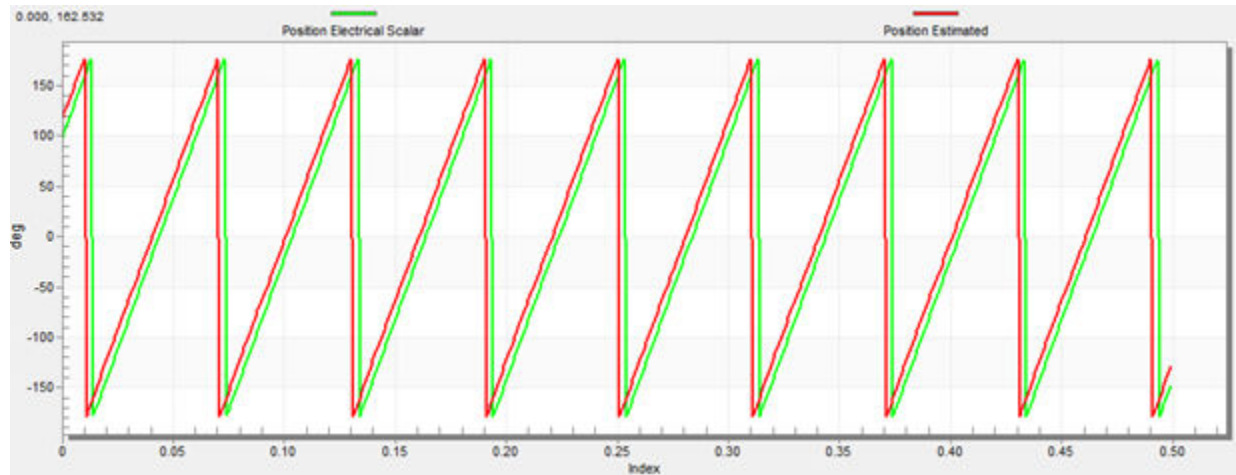

Figure 17. Generated and estimated positions
- Select the "Position" recorder to check the observer functionality. The difference between the "Position Electrical Scalar" and the "Position Estimated" should be minimal (see Figure 17) for the Back-emf position and speed observer to work properly. The position difference depends on the motor load. The higher the load, the bigger the difference between the positions due to the load angle.